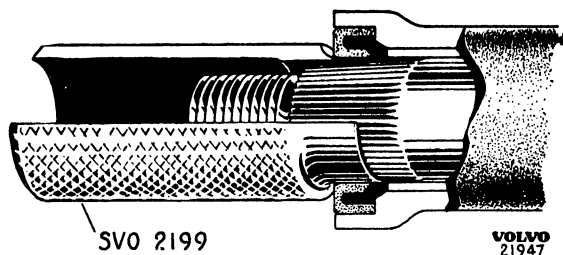

Fig. 6-43. Fitting pitman arm shaft
6. Fit protective sleeve SVO 2199 as shown in Fig. 6-43 and fit the pitman arm shaft in the housing. Apply some drops of oil to the adjusting screw in the pitman arm shaft.